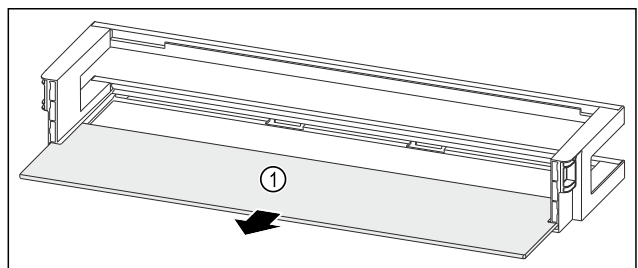

Fig. 179 Door rack with shelf
- ▶ Remove the shelf Fig. 179 (1).